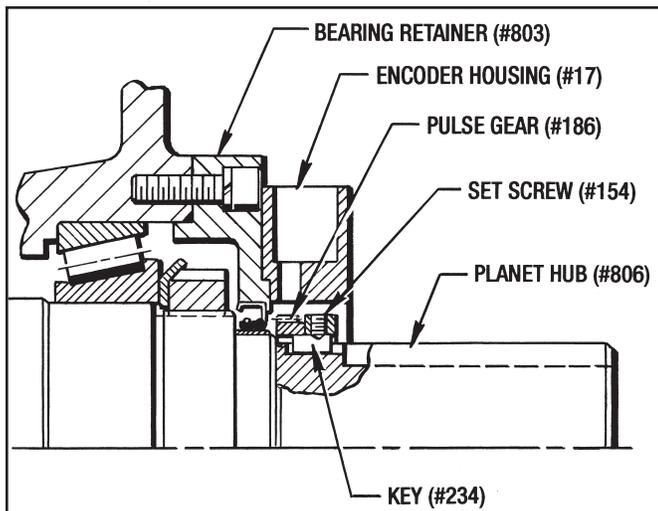

Figure 9.15 - Pulse Gear Alignment (#20 with Reducer)
2. Slide the Pulse Gear (#186) onto the Planet Hub Shaft (#886). Butt it up against the shaft shoulder and align the Set Screw (#154) with the Key (#234) and tighten. (See Figure 9.15)